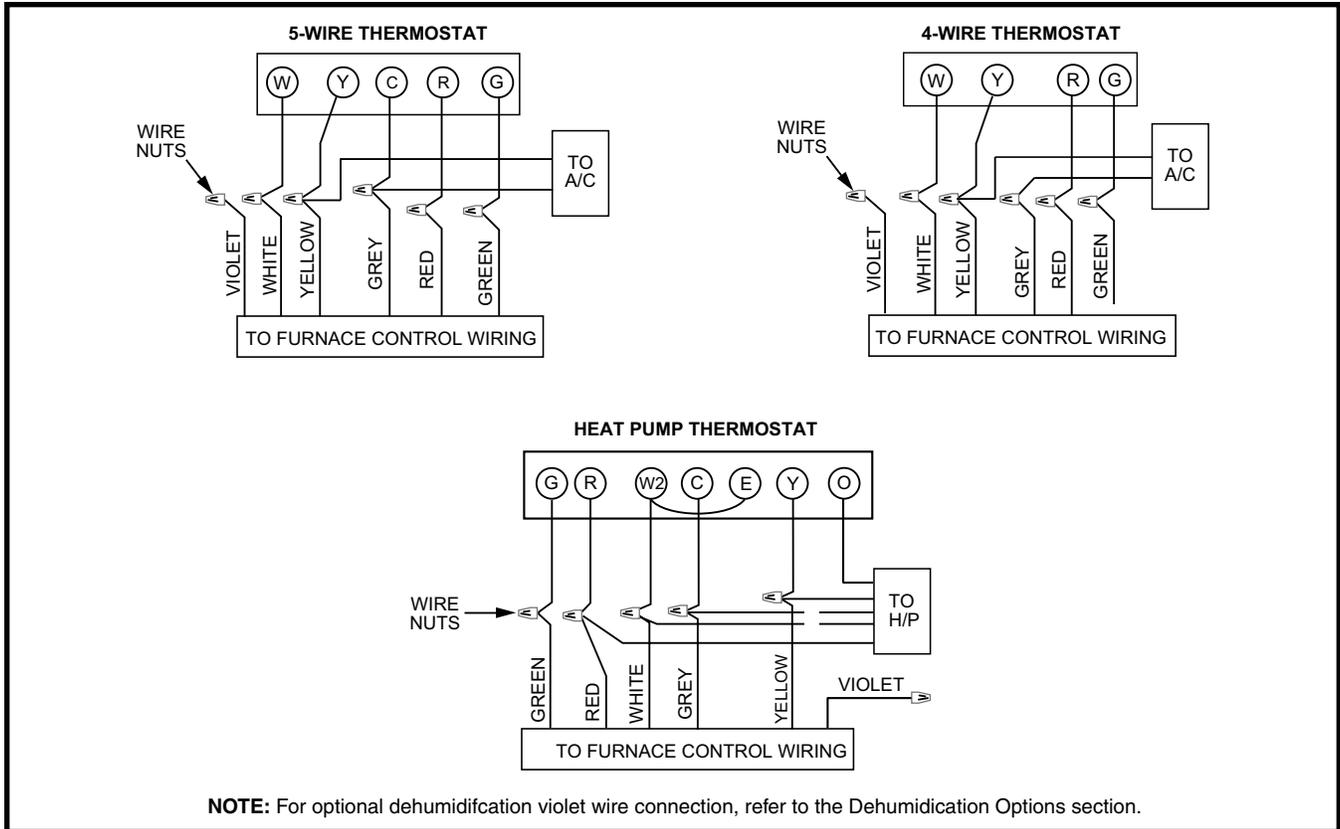

Figure 20. E7 Thermostat Connection
- The thermostat should be mounted about 5 feet above the floor on an inside wall. DO NOT install the thermostat on an outside wall or any other location where its operation may be adversely affected by radiant heat from fireplaces, sunlight, or lighting fixtures, and convective heat from warm air registers or electrical appliances. Refer to the thermostat manufacturer's instruction sheet for detailed mounting information. See Figure 20 \(page 16\) for typical thermostat connections.
NOTE: Installation of at least a four-wire thermostat circuit is required. However best practice is to use five-wire for future addition of a heat/cool thermostat. Any unused thermostat leads must be properly capped. See Figure 20 \(page 16\) for various thermostat connections.